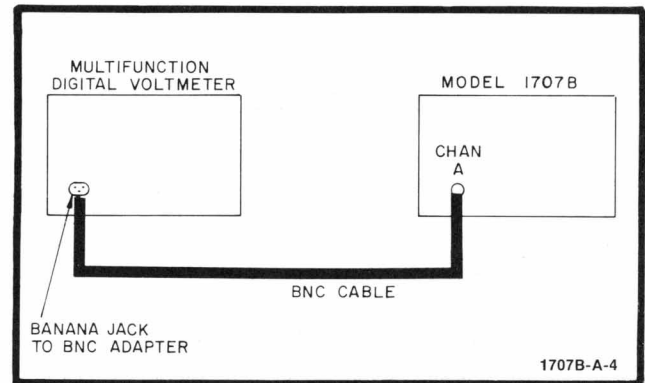

Figure 5-5. Input Resistance Test Setup
- a. Connect instruments as shown in figure 5-5.
- Connect instruments as shown in figure 5-5.